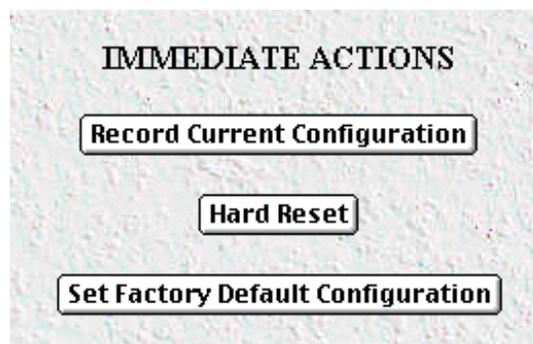

Figure 20. Immediate Actions buttons
- **Record Current Configuration**—clicking on this button (see figure 20) saves the current configuration in volatile DRAM memory to FLASH memory. Once the configuration is saved into FLASH memory, the configuration will not be lost even if the power is cycled on the 3095. Initially, any changes made to the
- **Hard Reset**—this button (see figure 20) causes the Model 3095 to perform a cold restart. When you select **Hard Reset**, the DACS confirms that you want to execute this command. Then, the DACS will disconnect all current sessions, re-initialize the interfaces, and re-load configuration parameters from FLASH.
- **Set Factory Default Configuration**—this button (see figure 20) clears out the configuration in FLASH and loads the factory default parameters into FLASH memory. The factory default settings will not execute on the Model 3095 until it is re-booted by doing a Hard Reset.
Note **Set Factory Default Configuration** (figure 20) will delete any routing information, the Model 3095's Ethernet IP address, and any other site-specific settings made for your particular installation. You will have to re-enter the Model 3095's Ethernet IP address and netmask using the rear panel control port before using the HTTP/HTML Management pages.